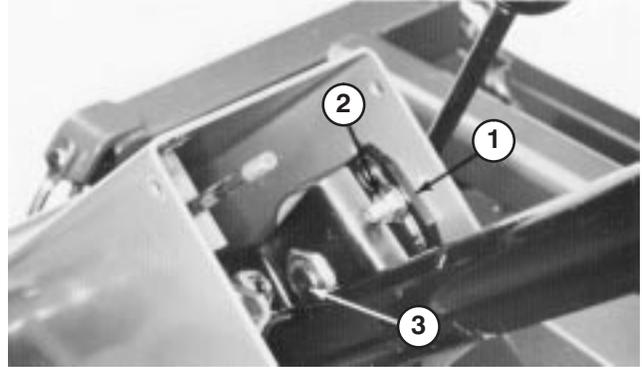

Figure 58
1. Remove knob from parking brake and self tapping screws from steering column cover. Slide cover up steering shaft to expose pivot bracket (Fig. 58).
2. Loosen small nut, rotate pivot bracket until it tightens large nut below (Fig. 58). Retighten small nut.